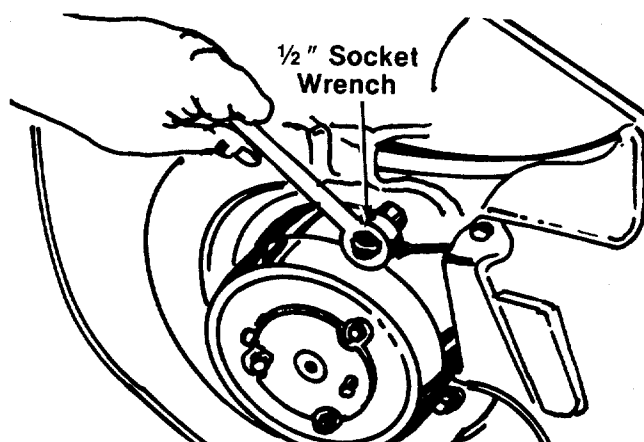

FIGURE 19.
11. Support the engine with one hand. Remove the three self-tapping screws which secure the deck and blade brake/clutch to the engine. A $\frac{1}{2}$ " socket wrench is required. See figure 19.